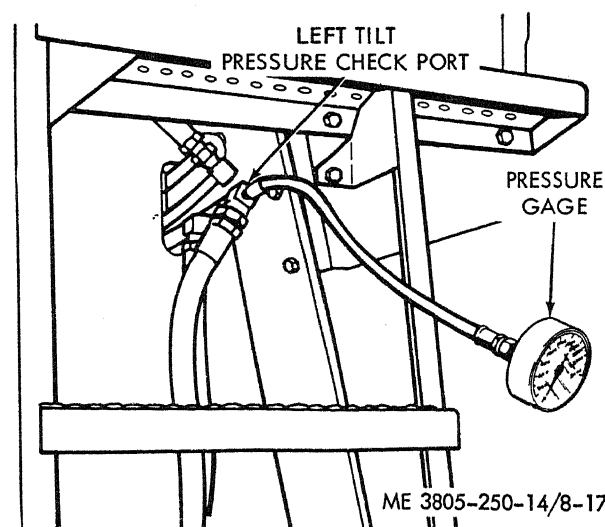

Figure 8-17. Pressure gage installation.
(1) With the air valve on the hydraulic reservoir closed, slowly loosen the filler cap to depressurize the reservoir. Lock chassis sections with the safety bar.
(2) Operate bucket control levers to relieve system pressure.
(3) Remove the plug from the pressure check port on the left side of the tilt manifold and install a 0 to 3000 psi pressure gage (fig. 8-17).